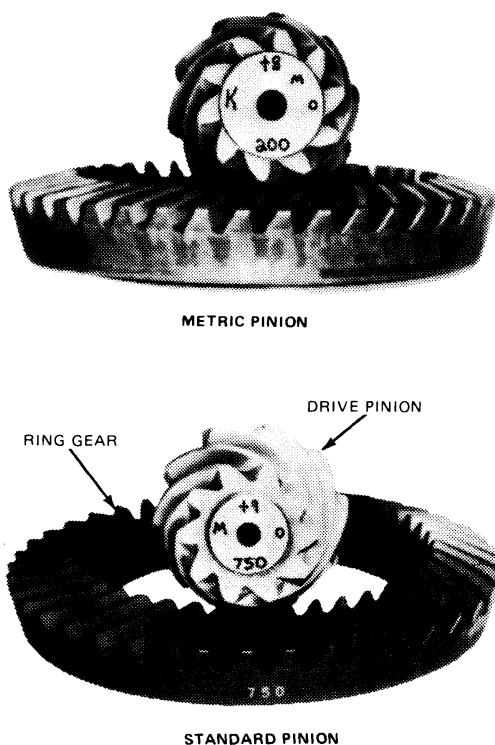

FIG. 21 Ring and Pinion—Matched Set
11. Ring gears and pinions are supplied in matched sets only. Matching numbers on both the pinion and ring gear are etched for verification. If a new gear set is being used, verify the numbers of each pinion and ring gear before proceeding with assembly (Fig. 21).